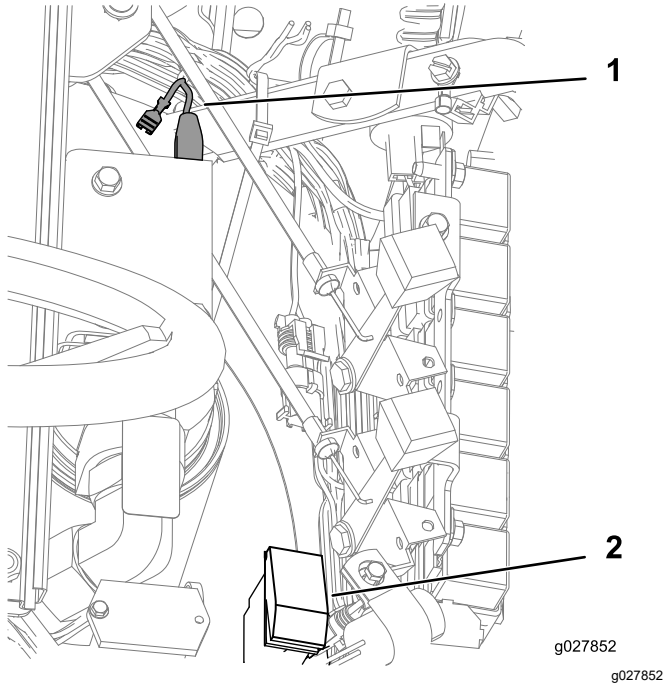

Figure 6
- Route the light kit harness from the light assemblies on the ROPS to the light kit terminals (J13 and J14) on the machine harness, located behind the seat (Figure 6).